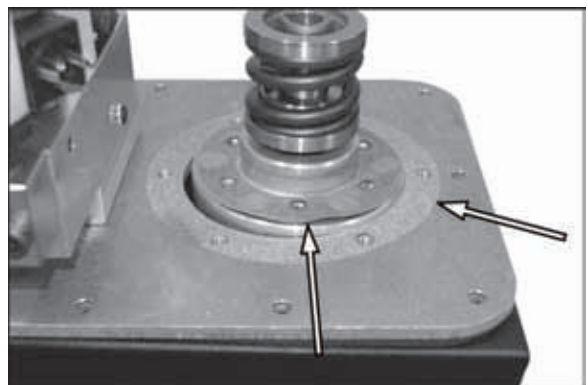

Figure 74.
5. See Figure 74. Remove the gasket and clean the gasket surfaces.